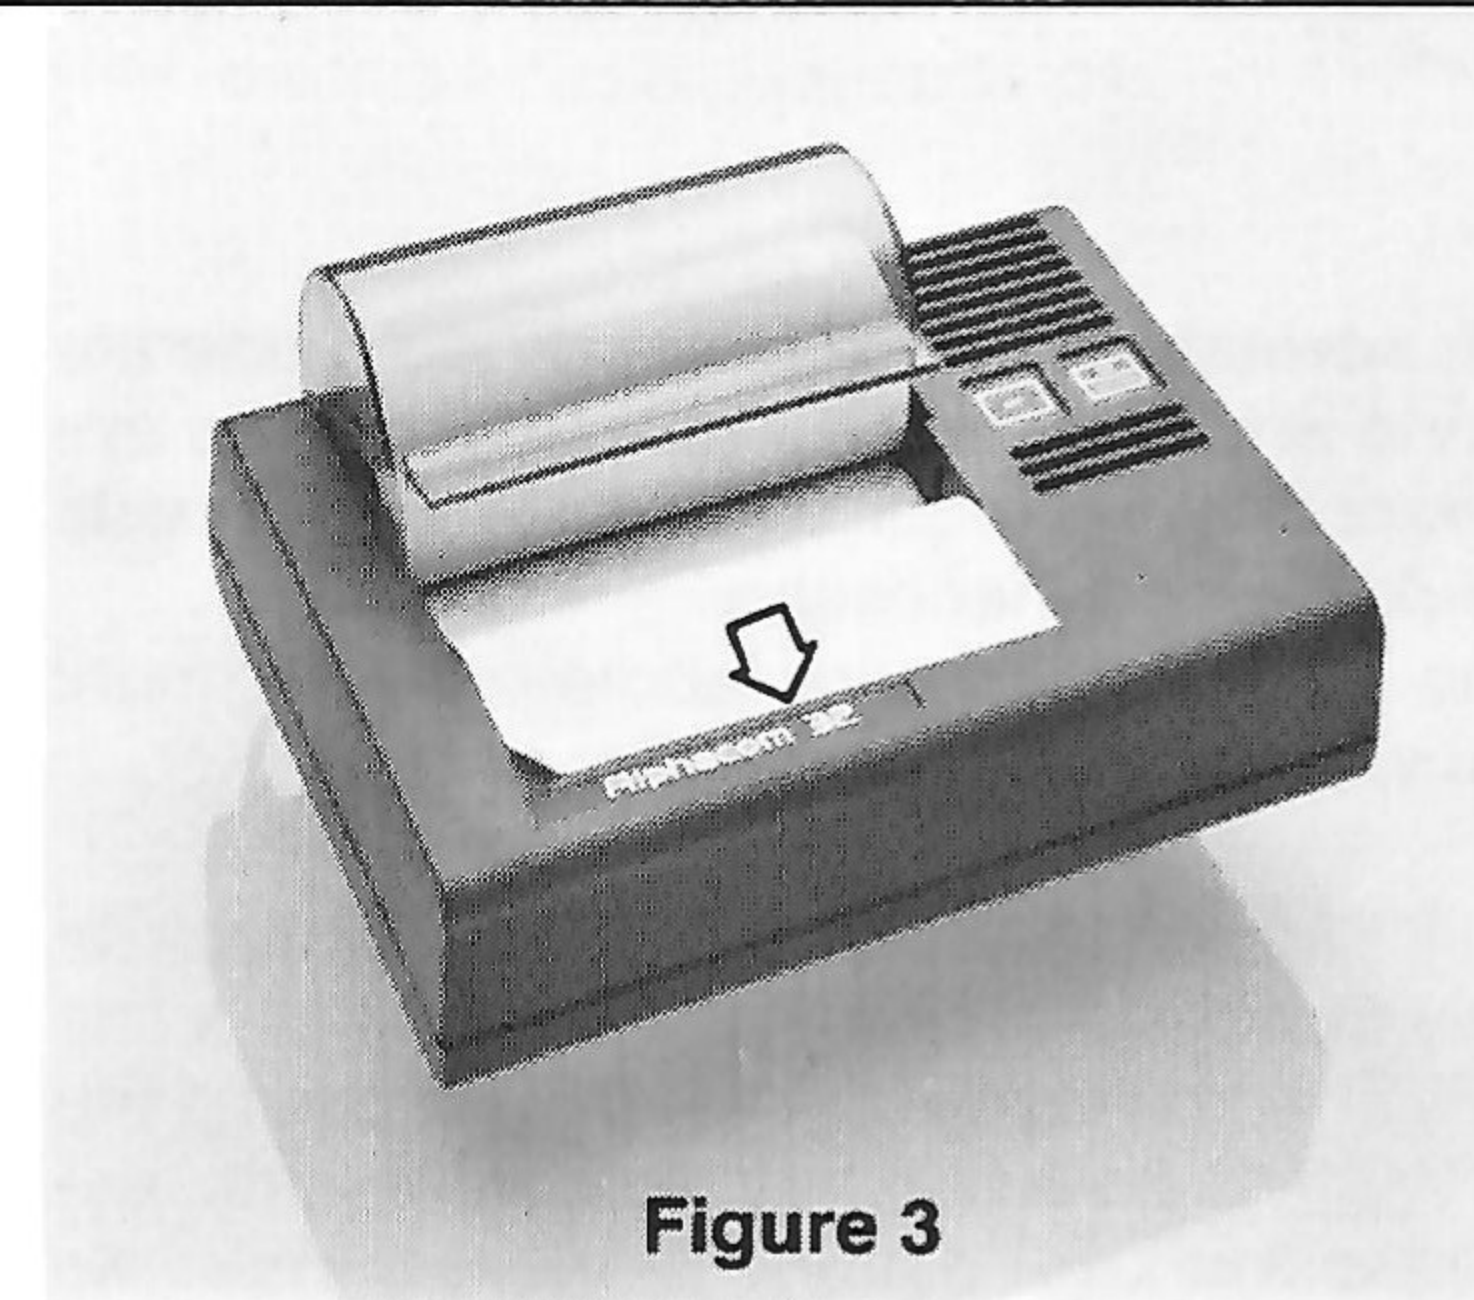

Figure 3
**STEP 3:** Reroll any loose paper coming from underneath the paper roll. Grasp the leading edge of the paper and hold it toward the front of the printing unit, then close the transparent cover. **IMPORTANT:** The leading edge of the paper must remain outside of the cover. See Figure 3.